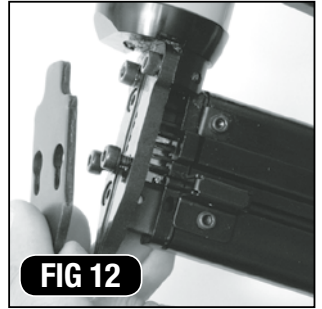

FIG 12
5. Pull the cover away from nose as shown in (Fig. 12).